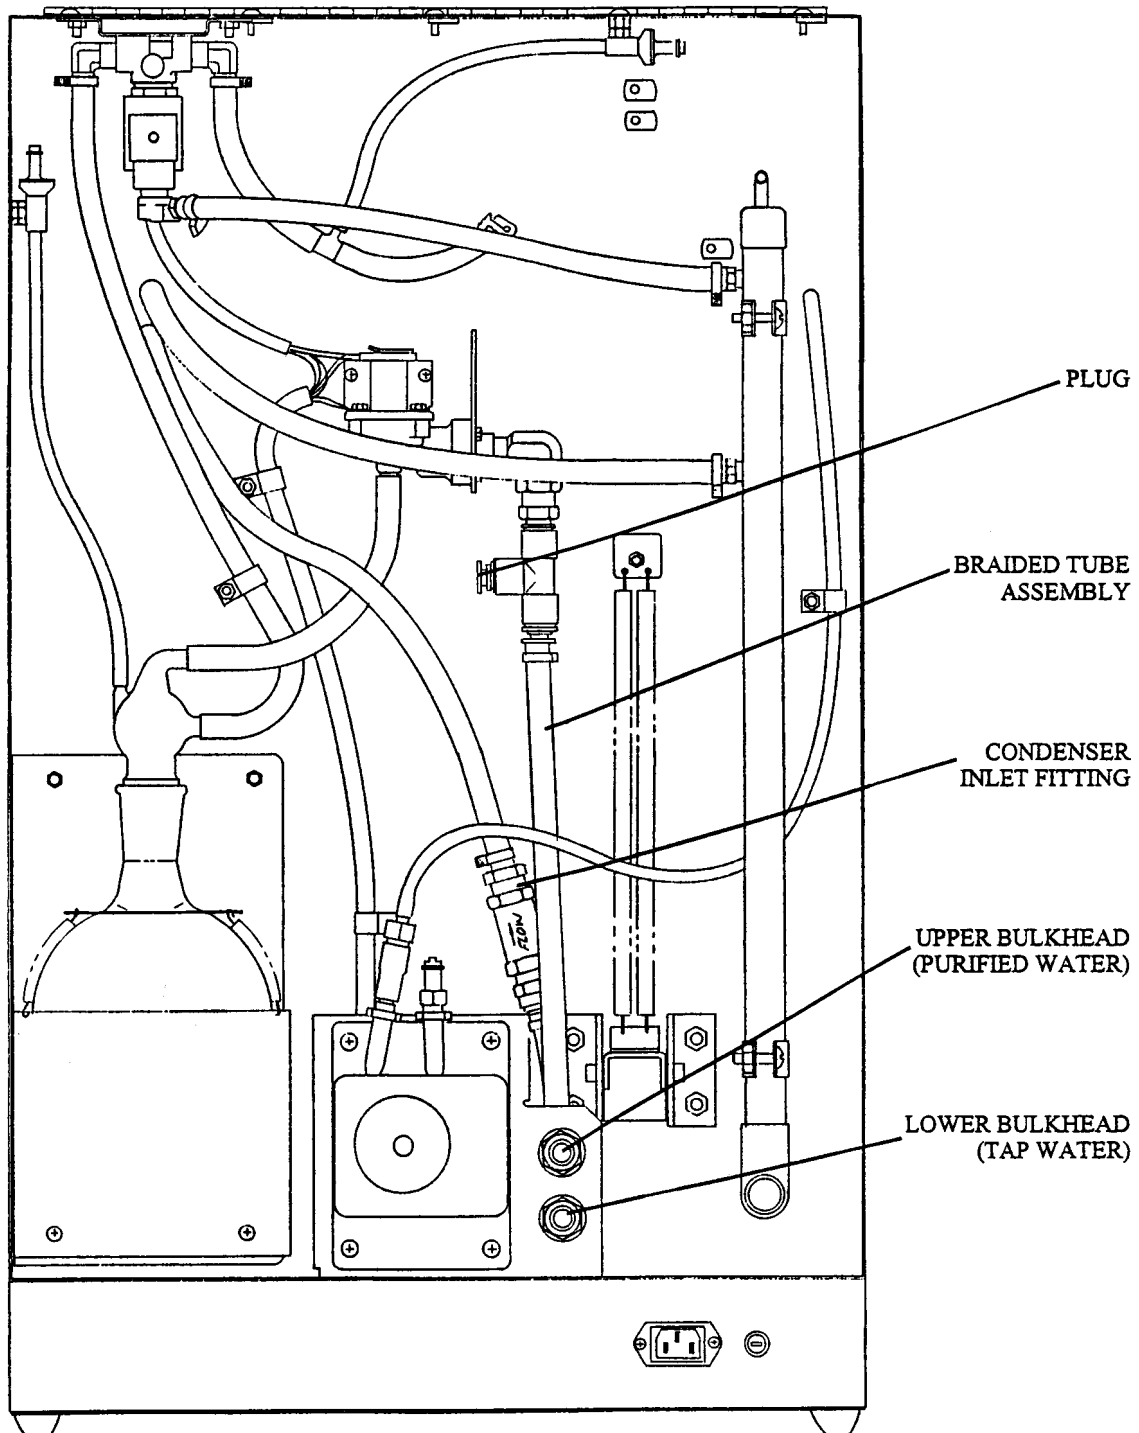

Figure 7
- (7) Plug the flow restrictor outlet into the condenser inlet fitting, as shown in Figure 7.
- (8) Install the braided tube assembly supplied with the kit from the bulkhead union installed in Step #4 to the T-shaped fitting.
- (9) Install the supplied plug into the open port of the T-shaped fitting.
- (10) When completed, the installation should appear as shown in Figure 7. The upper bulkhead fitting (that was just installed) supplies the boiler with water and may be connected to a purified water source. The lower bulkhead fitting (the original fitting) will now supply only the condenser with cooling water and should remain connected to an appropriate supply of feed water (tap water).